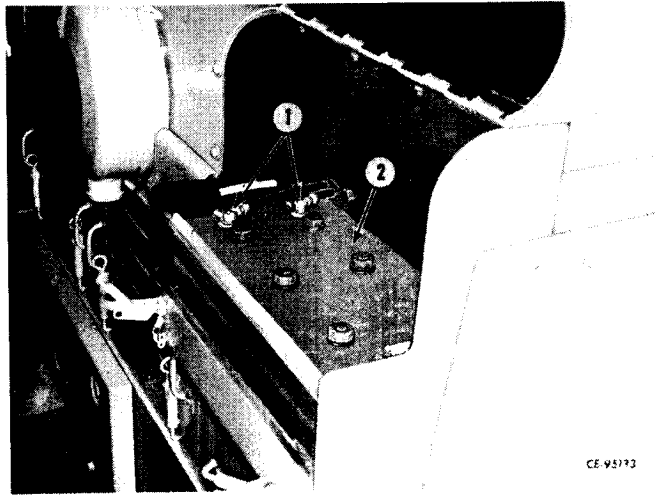

Figure 2-51
With batteries (2, Fig. 2-51) cleaned and installed on each side of unit, install and tighten battery cables to the correct battery posts (1). Install ground cable last. Refer to Section 12, "ELECTRICAL SYSTEM" for additional information.